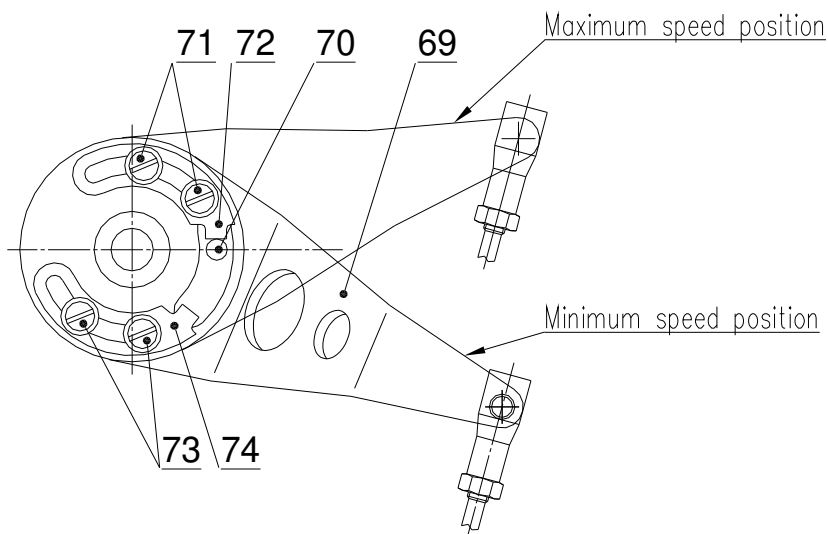

Fig.301 Speed governor lever
- (1) Set the propeller control lever in the cockpit to the position of minimum governed speed just ahead of the stop.
- (2) Check touching of the minimum governed speed stop (72) of the lever (69) the opening stop (70) on the speed governor lever (see Fig. 301).
- (3) Set the propeller control lever in the cockpit to the position of maximum governed speed just ahead of the stop.
- (4) Check touching of the maximum governed speed stop (74) of the lever (69) the opening stop (70) on the speed governor lever.